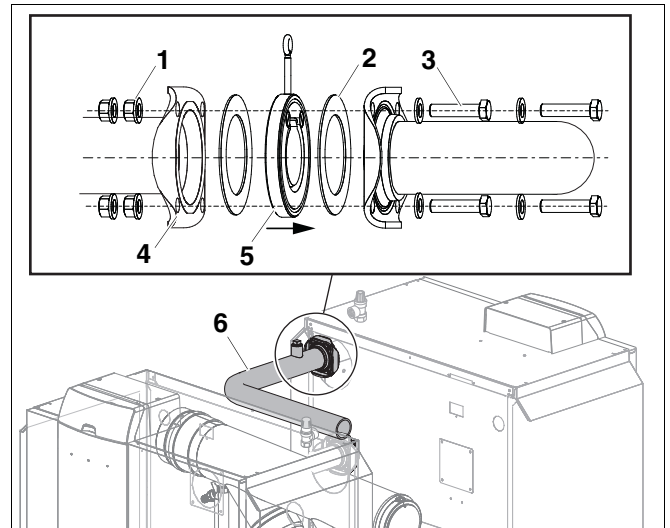

Fig. 5 Fitting the flow connection to the first boiler
- The check valve (Fig. 5, [5]) remains fitted to the flow according to the flow direction.
- Place gasket (Fig. 5, [2]) on the check valve.
- Secure flow piece flange (Fig. 5, [6]) to flow flange (Fig. 5, [4]) on the boiler using four bolts (Fig. 5, [3]) and nuts (Fig. 5, [1]).